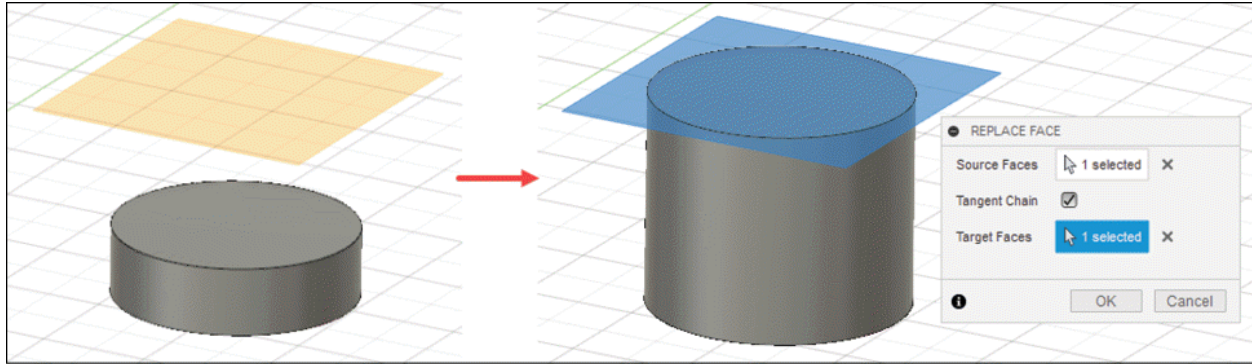

Figure-41. Preview of replace face
- Click **Select** button of **Target Faces** section and click on the face or plane to apply this tool. The preview will be displayed; refer to Figure-41.